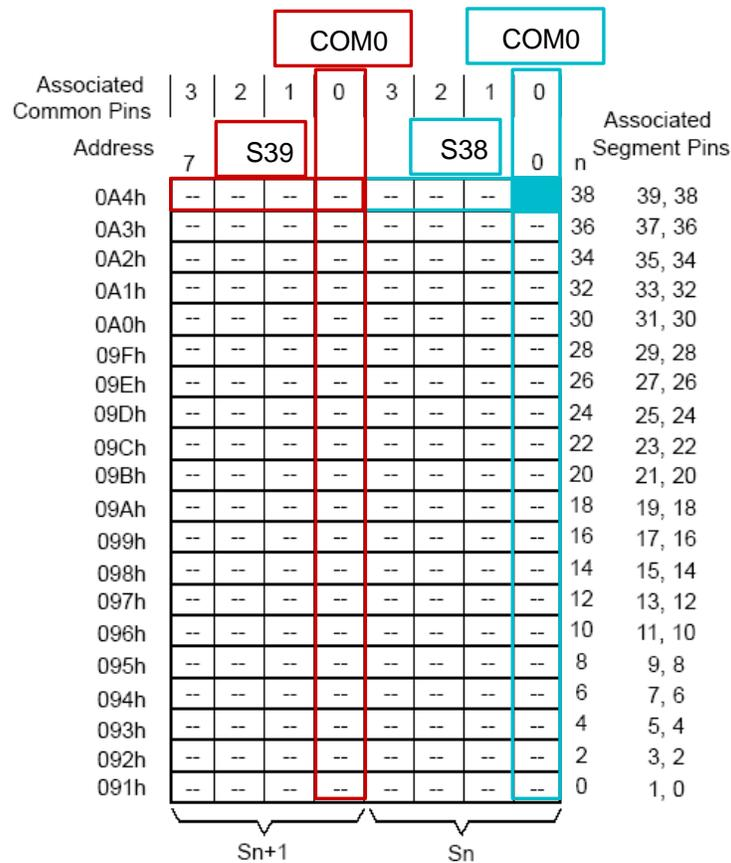

Figure 8. LCD Memory Map Example
**Figure 8** shows an example memory configuration for 4-mux mode. The S38 and S39 segment pins in this example correspond to the lower and upper nibbles of the byte at LCD memory offset 0xA4. To control the segment connected to COM0 + S38 or COM0 + S39, the software would set the highlighted bits to either 1 or 0 to indicate the desired LCD segment state "on" or "off".
When using individual segment blinking, whether a segment blinks or not is controlled by the blink memory. The structure of blink memory is just like LCD memory discussed in Section 4.6 and shown in Figure 8. The blink memory can also be used as a secondary display memory – the LCDDISP bit controls which memory is currently being used for the display. One of the blinking modes can also be used to automatically toggle between displaying the two memories.